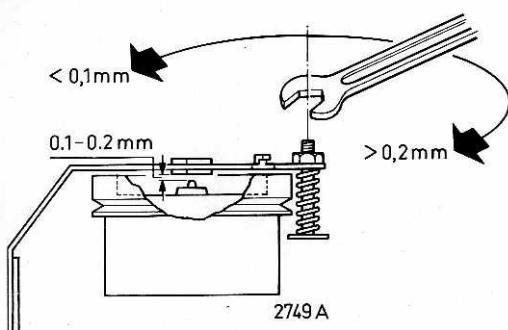
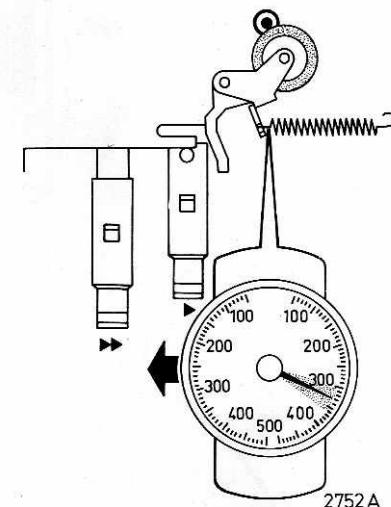

Fig. 3
Fig. 4
4. Adjusting the flywheel bracket 503, Fig. 3**5. Adjusting the force of the pressure roller 76, Fig. 4**